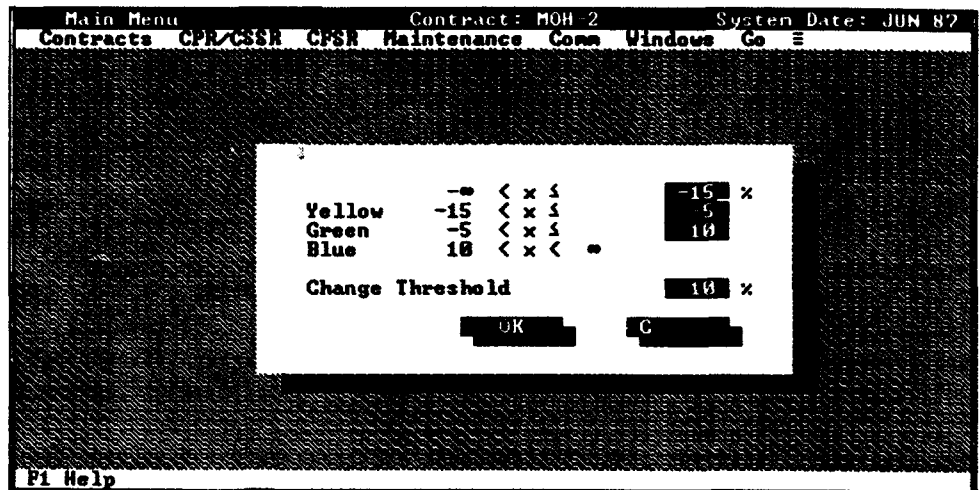

Figure 3-7
The Analysis Module Thresholds are used to determine which colors are shown when using the Analysis function (Figure 3-7). The Performance Analyzer will use these percentages as a comparison against Cumulative and Current Month Cost Variance (CV), Schedule Variance (SV), and Variance at Completion (VAC) percentages for each element. The color information will be displayed on the analysis screen along with arrows indicating the trend from last month. If thresholds are changed, the contract must be recalculated.